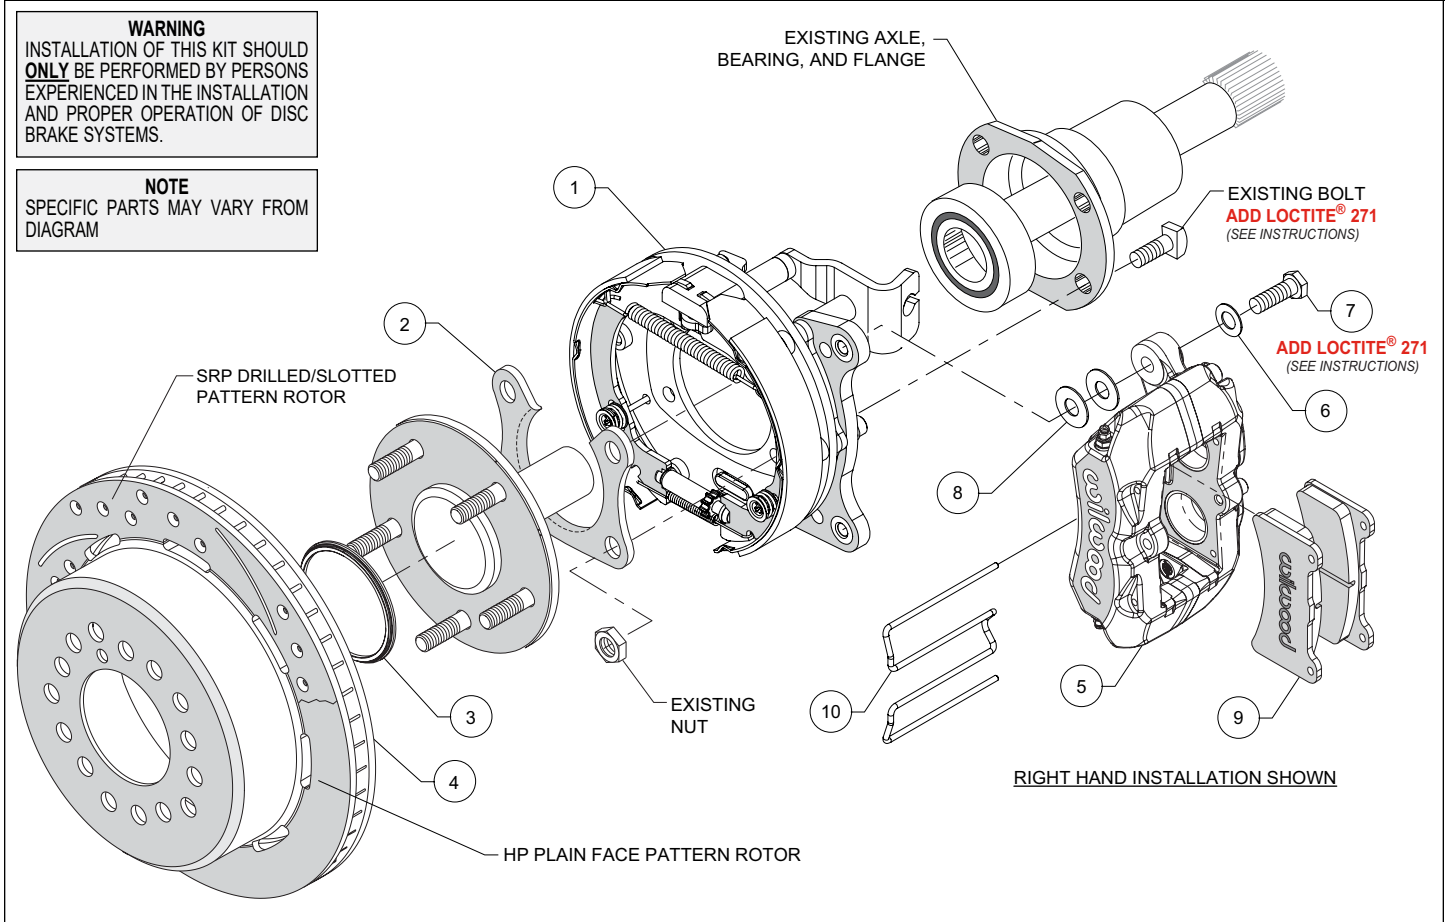

Figure 1. Typical Installation Configuration
NOTE: Numbers in parenthesis refer to the parts list and Figure 1 on the preceding pages.
- Orient the bracket assembly (1) as shown in Figure 1 and Photo 1 and slide it onto the axle. Insert the axle and bracket into the axle housing. Ensure that the bracket assembly backing plate fits flush against the axle housing flange.
- Install the bearing retainer (2) with the opening pointing upward and the lip facing inward (toward the bearing), as shown in Figures 1 and 4, and Photo 2. Secure retainer and bracket assembly to the axle housing flange using the Original Equipment Manufacturer (OEM) bolts and nuts, Figure 1. Apply red *Loctite*® 271 to the OEM bolt threads and torque to OEM specifications.
- Slide the rotor registration adapter (3) onto the axle register on the axle flange with the smaller O.D. facing toward the rotor/hat (4), Photo 3. Align the correct hole pattern in the rotor/hat with the stud pattern on the axle flange and slide into place, Figure 1 and Photo 4. **NOTE:** The rotor/hat must fit flush against the axle flange or excessive rotor run out may result. Install three lug nuts (finger tight) to keep the rotor/hat assembly in place while continuing with the installation. **NOTE:** Some OEM and after market axles come with stud sizes larger than 0.50" diameter. Verify stud size and have a qualified machine shop drill the bolt circle of the hat/rotor to the correct stud size, if necessary.
- NOTE:** Please reference the caution statement at the beginning of the assembly instructions. Mount the caliper (5) onto the caliper mounting bracket (1) using bolts (7) and washers (6), as shown in Figure 1. Initially place two .035" thick shims (8) on each bolt between the caliper and the bracket, Photo 5. **NOTE:** For forward mounted calipers only, the cable bracket must be temporarily removed to allow access to the upper caliper mount bolt. Remove the two flathead bolts holding the cable bracket to the parking brake backing plate, Photo 6. **DO NOT mix the bolts or spacers.** They must be reinstalled in the same locations as they were removed.